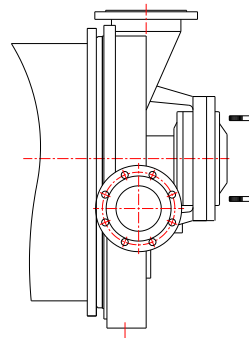

Figure 22. Bearing carrier assembly
3. Install secure bolts into bearing carrier which thread into head (see Figure 22). Alternately tighten bolts until mating surfaces of bearing carrier head are flush and tight.